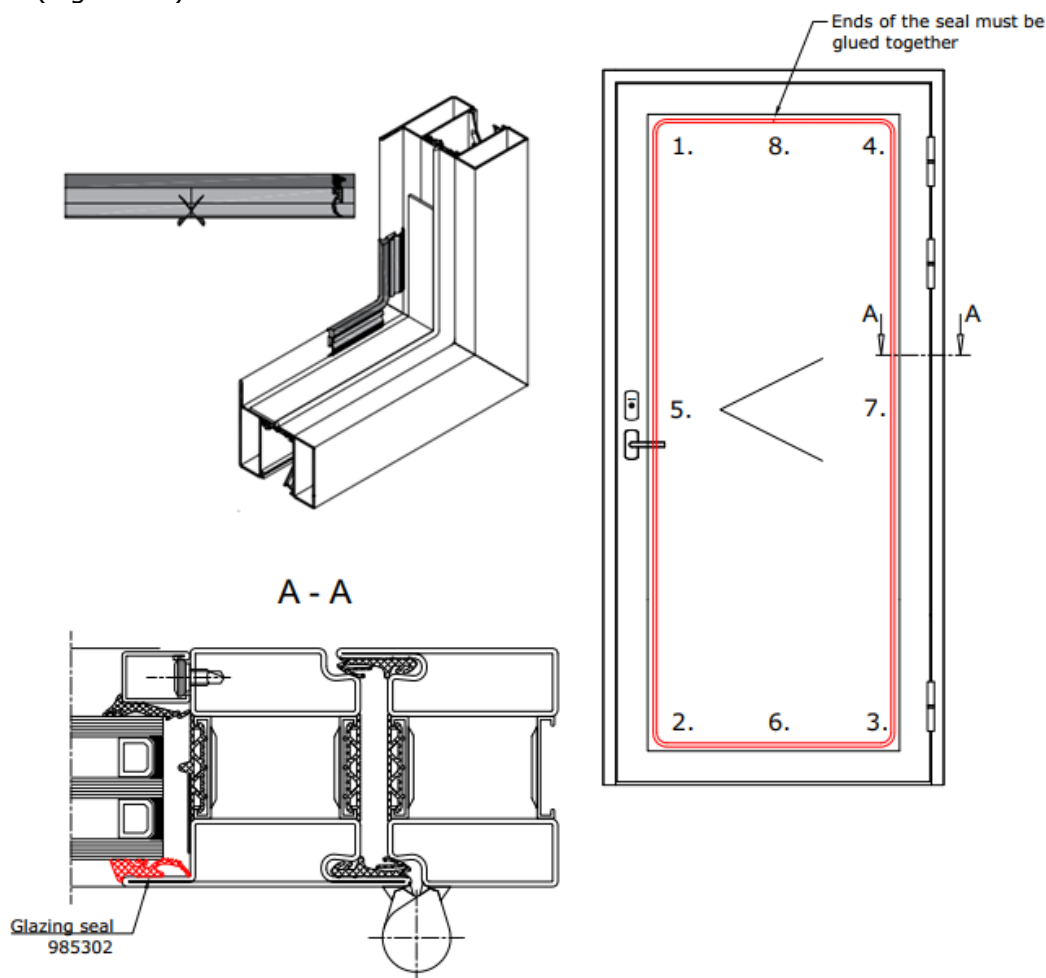

Figure 11 External glazing seal installation
4. Install the outer glazing seal (985302). Cut the gasket until to the soft part and glue it to the corners of the frame, then attach the gasket to the sides of the frame. The start and end of the seal must be located at the top of the glazing opening, the ends of the seal must be glued together (Figure 11).